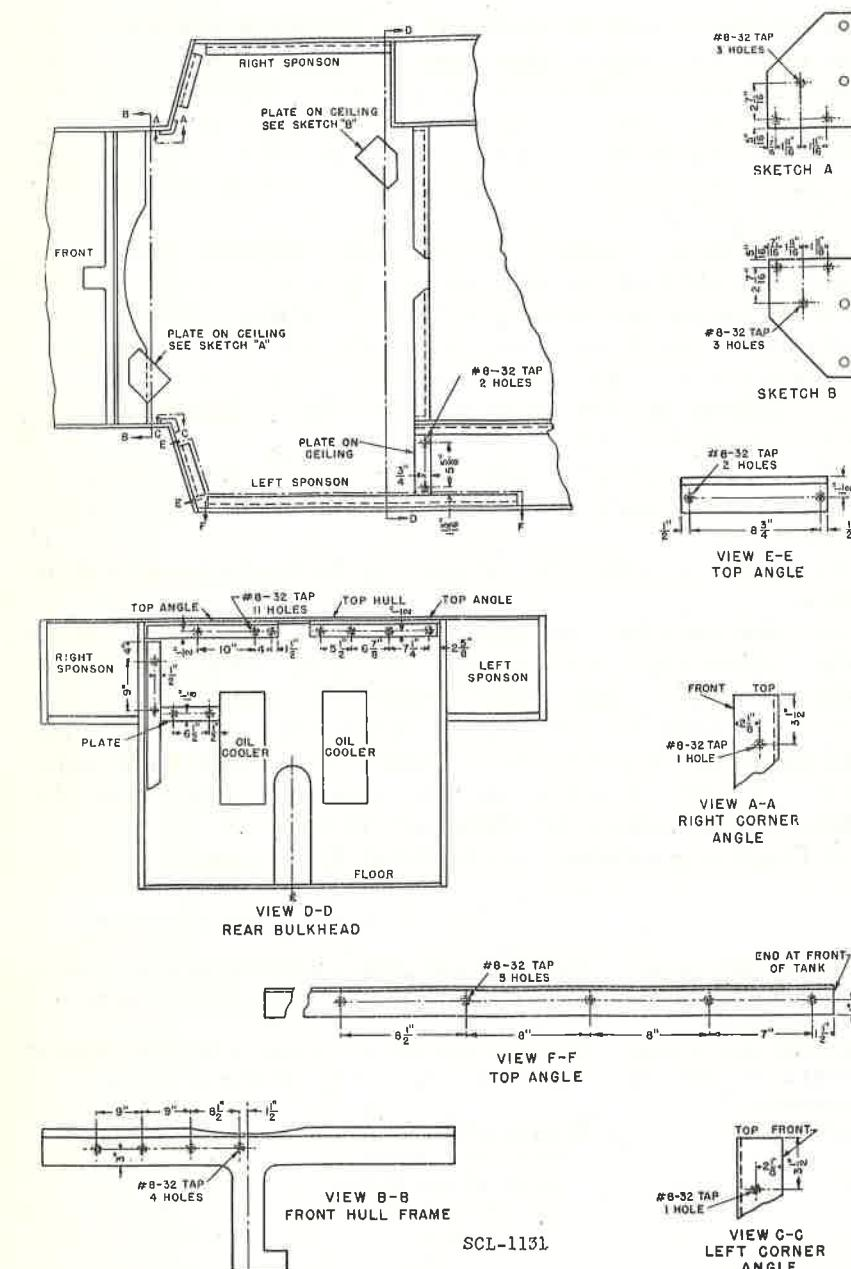

FIGURE 6.—Mounting holes and location for interphone equipment in light tank M2A4.
6. *Installation.*—a. *Drilling data.*—Light tank M1A1 comes with all the necessary mounting holes, but light tank M2A4 does not. Figure 6 gives the drilling details for light tank M2A4.
(6) *Mounting plates for control boxes BC-422 (light tank M2A4 only).*—Remove the two  $\frac{3}{8}$ -inch nuts and plate. Drill and tap three holes per figure 6. Jacks should face center of tank.